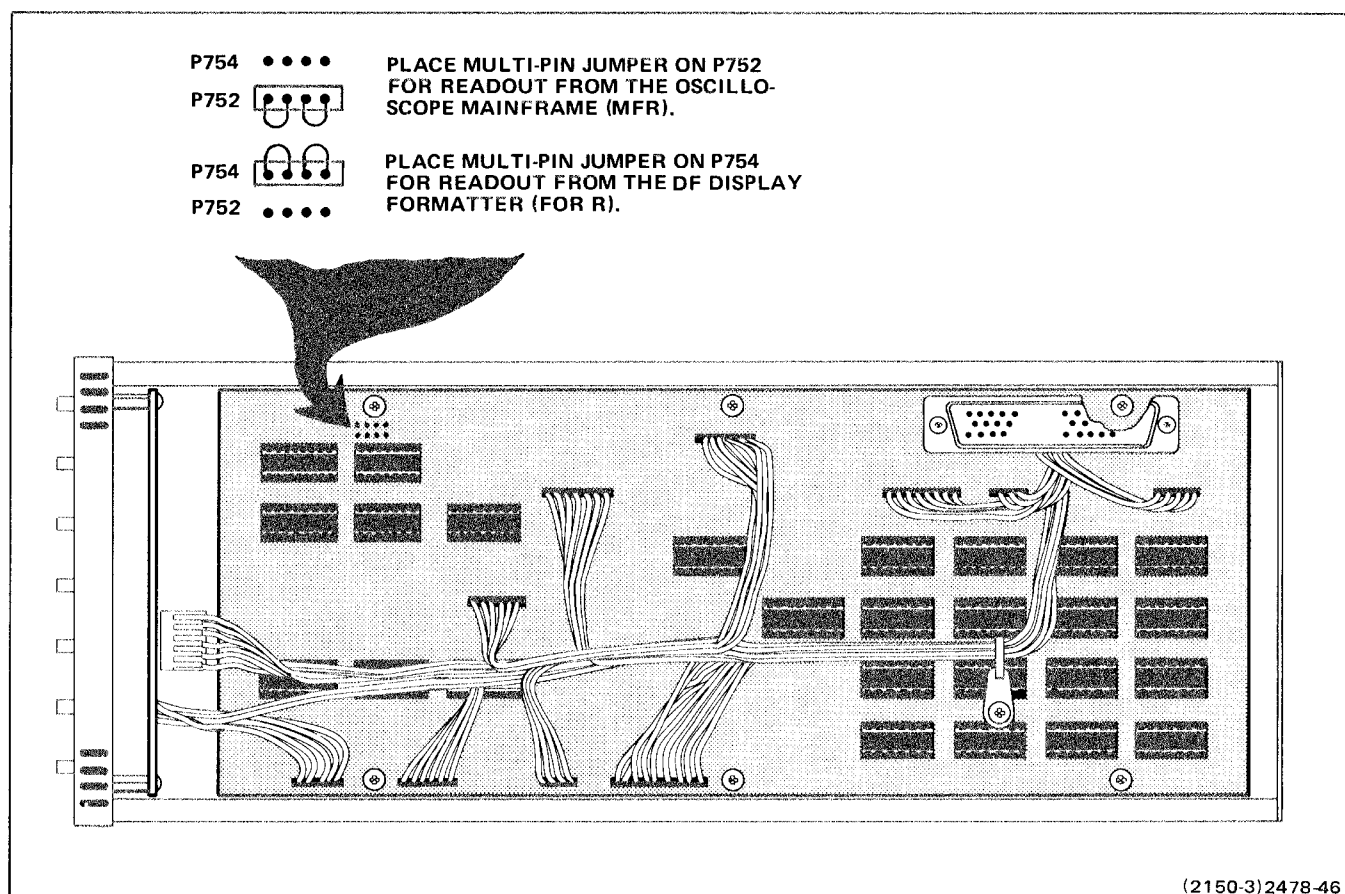

Figure 6-3. Location of readout source multi-pin jumper.
- Connect the DF Readout Source multi-pin jumper (internal) to display the formatter readout (FOR R). Refer to Figure 6-3.
g. Connect the DF Readout Source multi-pin jumper (internal) to display mainframe readout (MFR). Refer to Figure 6-3.
a. Connect the DF Readout Source multi-pin jumper (internal) to display the mainframe readout (MFR). Refer to Figure 6-3.
b. Set the System Test Fixture ADDRESS switches to 0098, and DATA switch number 0 to HI (1).
d. Set the System Test Fixture ADDRESS switches to 00A8. Set DATA switches: number 3 to HI (1), number 1 to HI (1), and number 0 to LO (0).
- a. Connect the DF Readout Source multi-pin jumper (internal) to display the mainframe readout (MFR). Refer to Figure 6-3.
- b. Set the System Test Fixture ADDRESS switches to 0098, and DATA switch number 0 to HI (1).
- d. Set the System Test Fixture ADDRESS switches to 00A8. Set the DATA switches: number 3 to HI (1), number 1 to HI (1), and number 0 to LO (0).